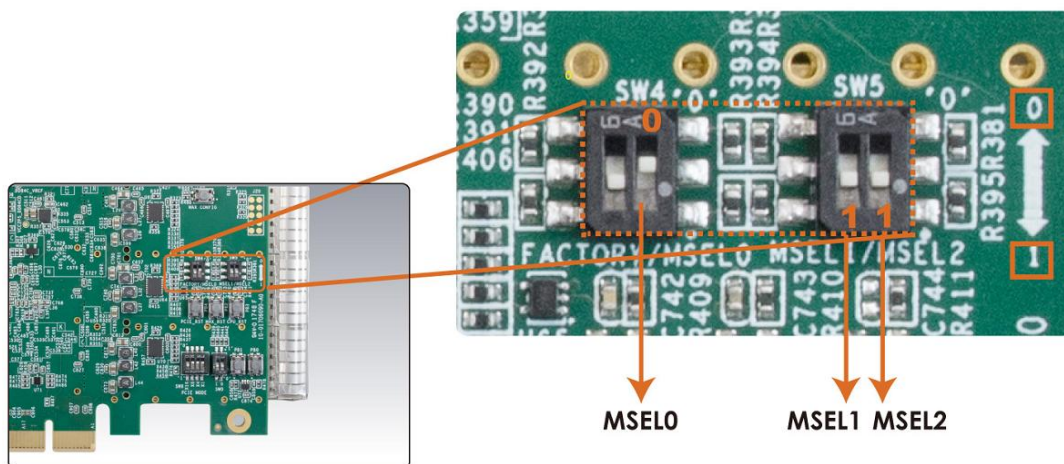

Figure 4-1 MSEL[2:0]=110
2. Set the FPGA configuration mode to AVSTx8 mode by setting SW5/4 MSEL[2:0] as **110** as shown in **Figure 4-1**.